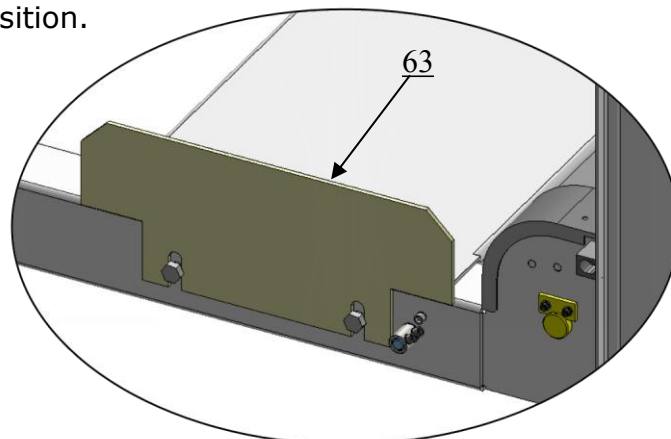

Fig. 32
O. Install Rear wheel stop plates (See Fig. 32)